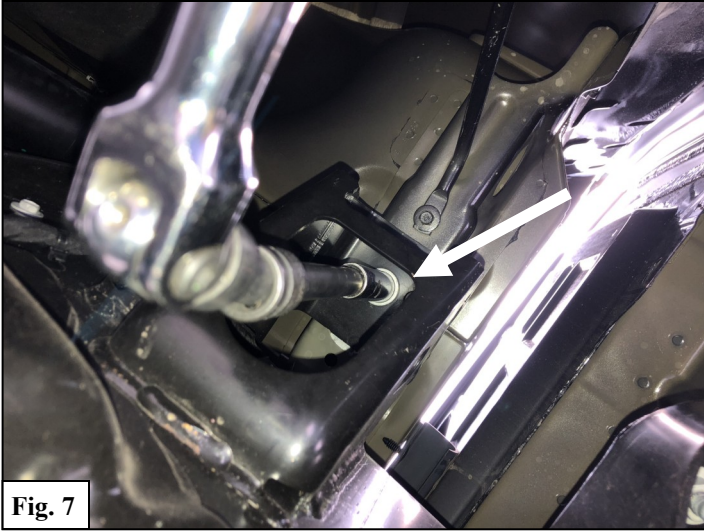
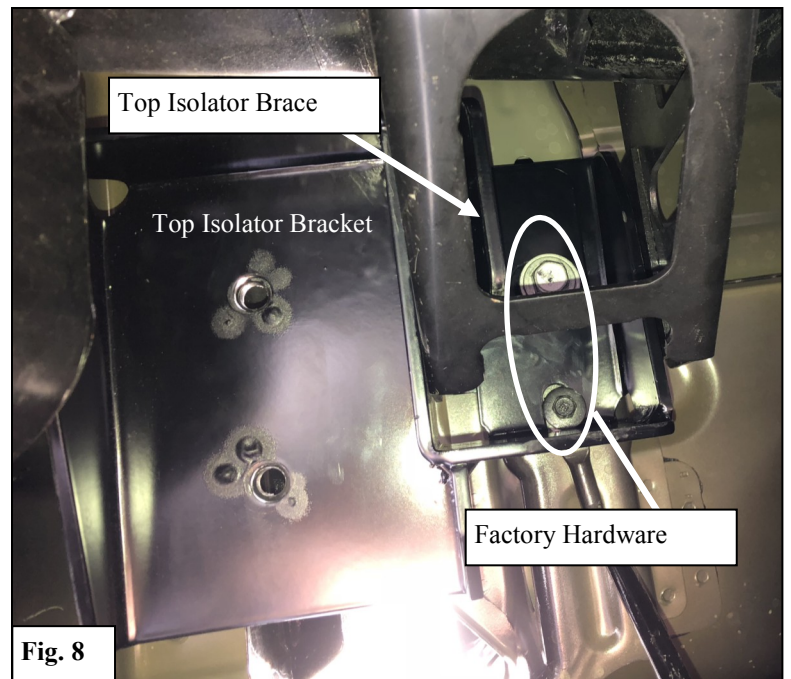

Fig. 7
Fig. 8
6. At the front passenger mounting location, loosely install Mounting Bracket B (9) with preassembled Mounting Bracket Base (13). **Note:** Installation is similar to Mounting Bracket A.
7. Repeat **Steps 4-7** on the driver side of the vehicle. **Note:** Driver Front will receive Mounting Bracket A (8) rather than B.
8. Moving to the rear-most location, install the Top Isolator Bracket (10), Top Isolator Brace (11), and Bottom Isolator Bracket along with the Isolator Kit (14). See **Figures 8 & 9**. You will need to first remove the bolt in the bed as shown in **Figure 7**. **Note:** A breaker-bar or impact gun will help in removal. The bolt is very tight.